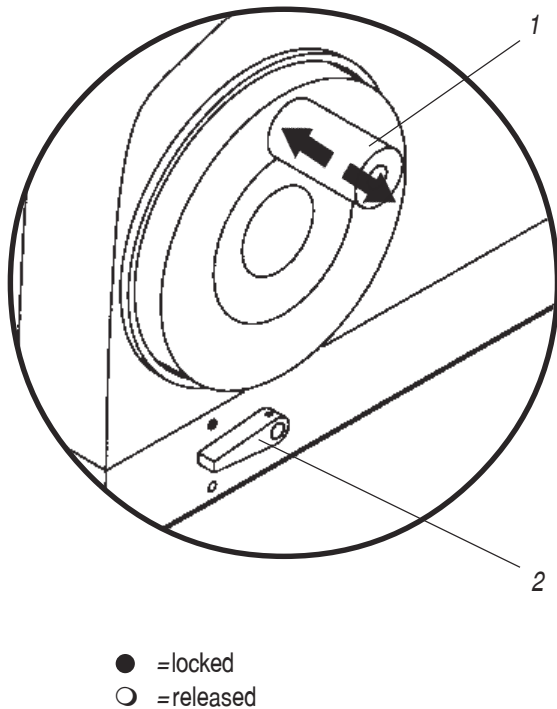

Fig. 1-1
The handle (1) of the sectioning handwheel can be used to lock the handwheel in the 12 o'clock position (Fig.1-1). To rotate the handwheel, the handle has to be pulled outward. As soon as the handle is pushed inward, the handwheel will be locked mechanically when reaching the 12 o'clock position.
Using the lever (2) located on the right side of the microtome base, the handwheel brake can be activated with the handle in any position. The "release" and "lock" positions of the brake lever are marked with two symbols on the microtome base plate (● = locked; ○ = released) (Fig. 1-1).